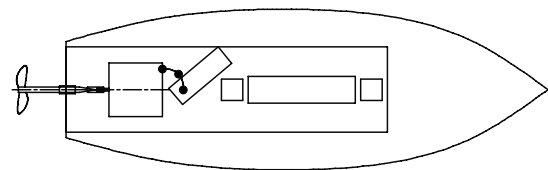

FIG. 17
Step 6. Click points to draw a spline from the motor to the battery, Spline 1, **Fig. 17**. Use your judgement for the coordinates.